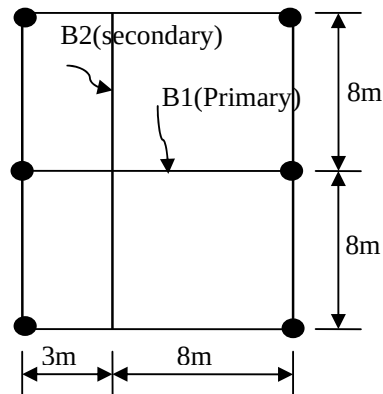

Fig.2
- Q.4 (b) Determine the reactions for the beam B1 in the floor framing system as shown in fig.2. Assume Dead-Load of the Floor = 3kN/m^2 & Live-Load = 2.5kN/m^2 . Assume self weight of B2=1kN/m. 07